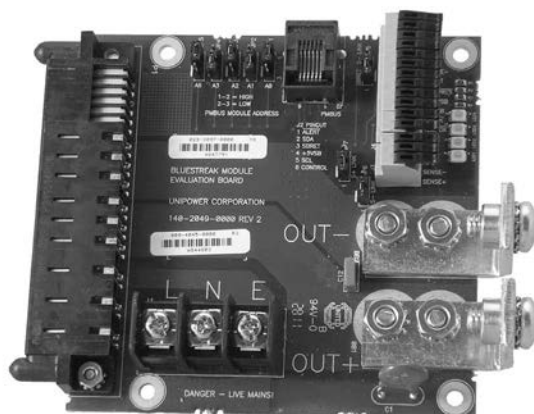

Figure 7 - Mating Interface Board
12.3 Mating Interface Board - Figure 7 shows a mating interface board which is available for simplifying the testing of a BLUEstreak module. As shown in the photograph, provision is made for input and output connections as well as the control and monitoring signals and PMBus interface.